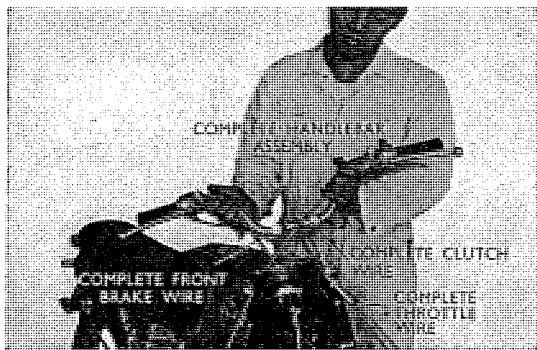

Fig. 4.5 Removing handlebar
7. When four 8×32 hex bolts are loosened and the handlebar holder is removed, the complete handlebar can be removed from the fork top bridge. Then remove the wires together with it. (Refer to Fig. 4.5)